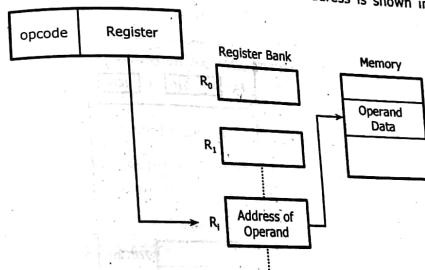

Fig. 5.4.4
**Instruction Format :** The instruction format for indirect address is shown in Fig. 5.4.4.
As seen in Fig. 5.4.4 it needs one memory access and one register access to get the operand data.